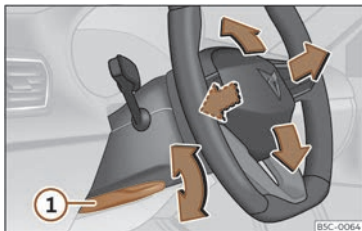

Fig. 86 Lever in the lower left side of the steering column.
- Pull lever >>> **Fig. 86** ① down, move the steering wheel to the desired position and lift the lever back up until it locks.
- After adjusting the steering column, push lever >>> **Fig. 86** ① firmly upwards so that the steering wheel does not accidentally change position while driving.